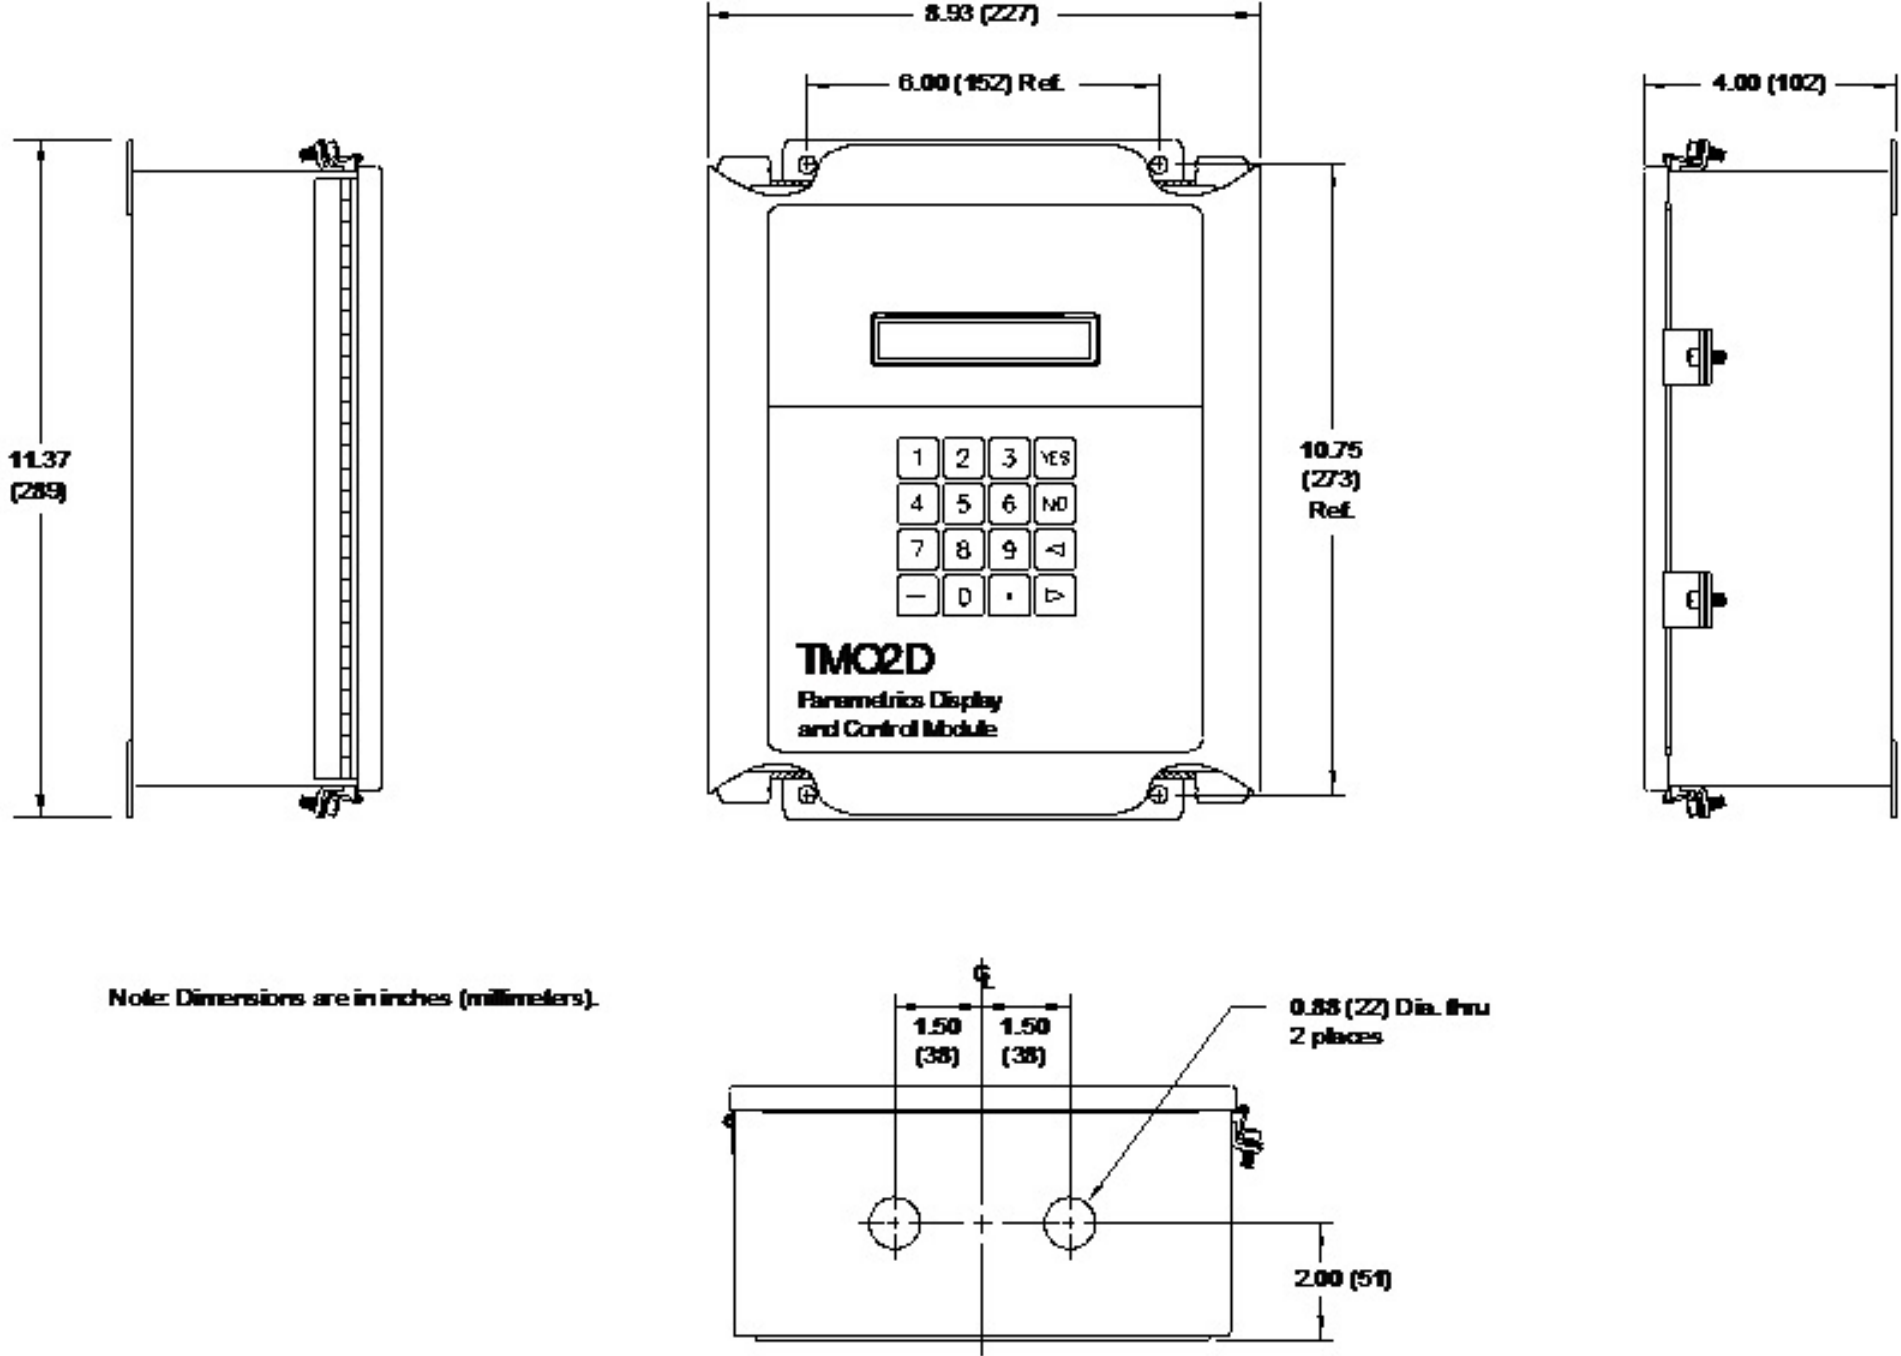

Figure 21: Stainless Steel Weatherproof Outline (ref. dwg #712-1123)
- *Figure 21:* Stainless Steel Weatherproof Outline